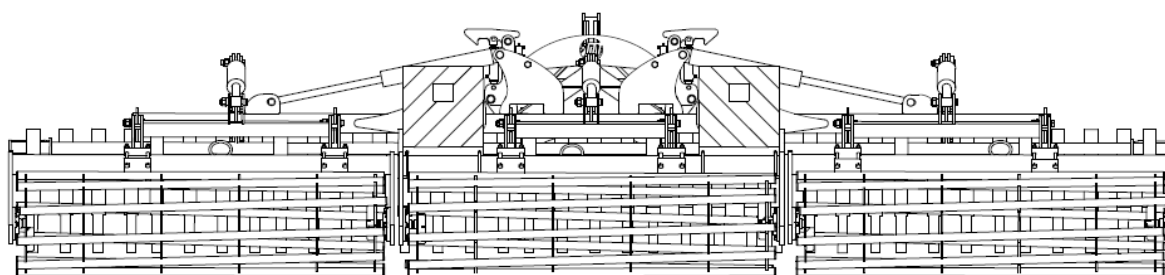

Figure 11 View of the machine at the end of the wing opening sequence. The arms of the machine are fully open.
- 6) Once the opening sequence is complete, check the levelling of the machine (fig. 11),